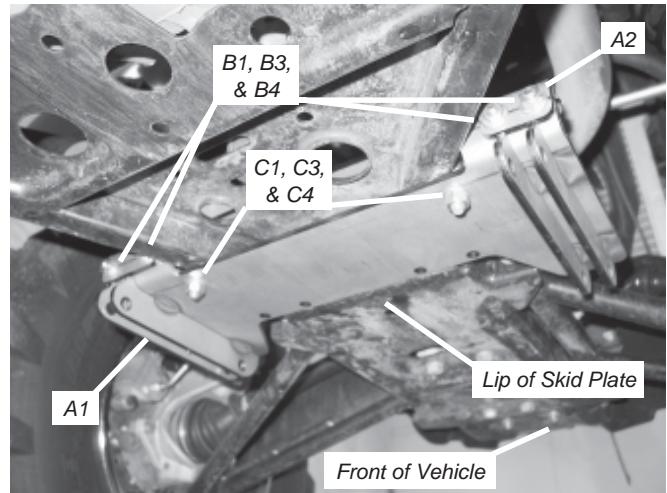

Figure 1 Install Bolts on Plow Mount
2. Place the plow mount (A1) under the vehicle just below the clamp plate (A2) and behind the lip on the front skid plate as shown in figure 1.
4. Slide the four 1/4" dia x 3/4" long bolts (B1) through the plow mount (A1) and clamp plate (A2). Terminate the bolts with a 1/4" dia flat washer (B3) and 1/4" dia nylock nut (B4) as shown in figure 1.